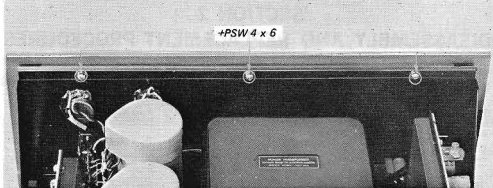

Fig 2-2 Front panel removal
3. Remove the three screws (+PSW 4 X 6) securing the front panel to the chassis from the back as shown in Fig. 2-2.